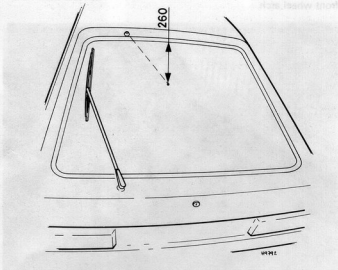

Fig. 13.123 Tailgate washer jet adjustment point (Sec 14)
- 17 Refitting is a reversal of removal. The washer jet should be adjusted to direct the spray at the point shown in Fig. 13.123.